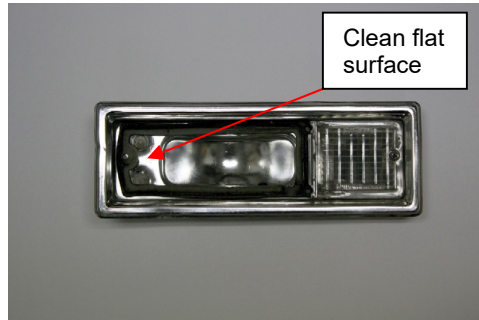

Figure 1
3. Clean the flat surfaces on the inside of the housing. (See Figure 1) Note: These surfaces must be clean and dry to assure the best adhesion of the mounting tape that will hold the LED panels in position.